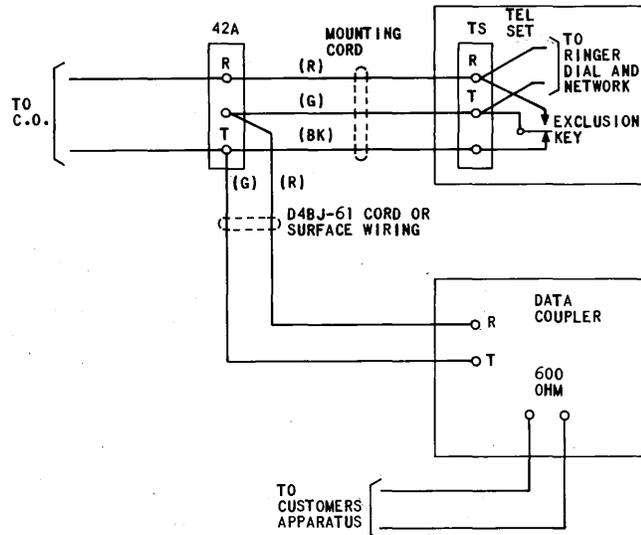

Fig. 4—Typical Wiring Diagram with Associated Telephone Set
**3.03** The data coupler and the associated network control signaling apparatus (telephone set, key telephone equipment, etc) may be connected in accordance with the typical wiring diagrams in Fig. 4 and 5. Terminal location is shown in Fig. 6. There is no restriction on the customer-provided transmission path to the customer's transmitting equipment.